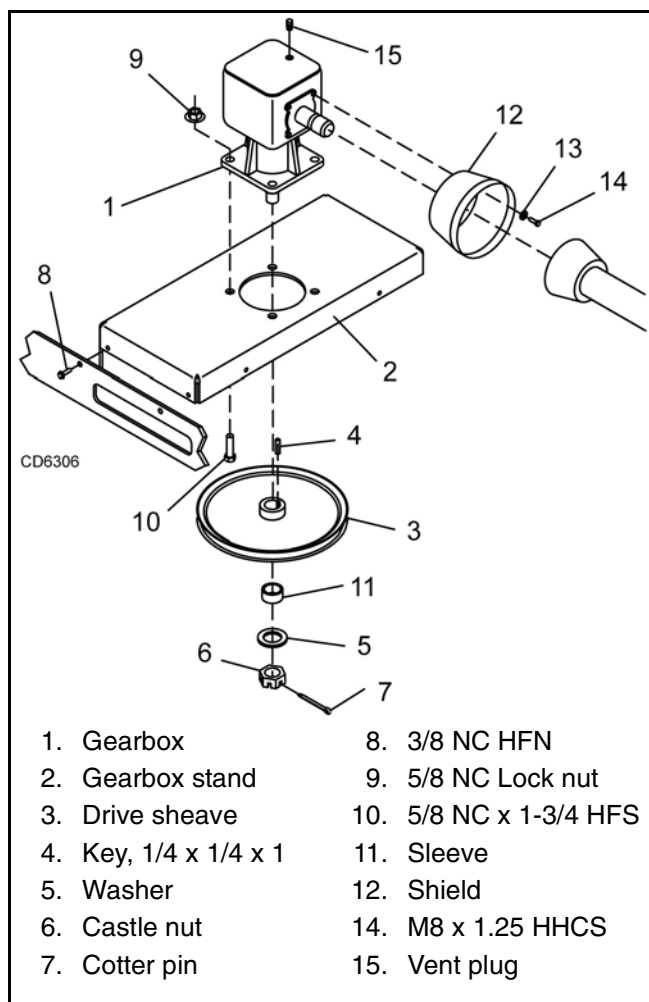

Figure 10. Gearbox Stand Assembly
2. Remove vent plug (15), Figure 10, and siphon gear lube from housing through this opening.
3. Remove gearbox stand (2) from mower deck by removing four hex screws (8).
4. Remove four cap screws (14) and washers (13) and remove shield (12) from gearbox.
5. Remove castle nut (6) and hardware from output shaft of gearbox.
6. Remove sheave (3) from gearbox.
7. Remove four bolts (10) that attach gearbox to gearbox stand and remove gearbox.